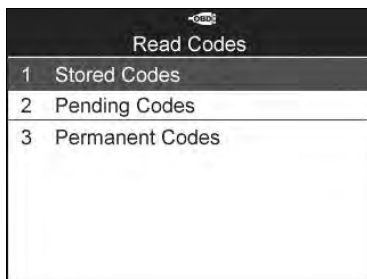

Figure 6.4
- 2) Use the **UP/DOWN** scroll button to select **Stored Codes**, **Pending Codes** or **Permanent Codes** from the **Read Codes** menu and press the **Y** button (Figure 6.4).